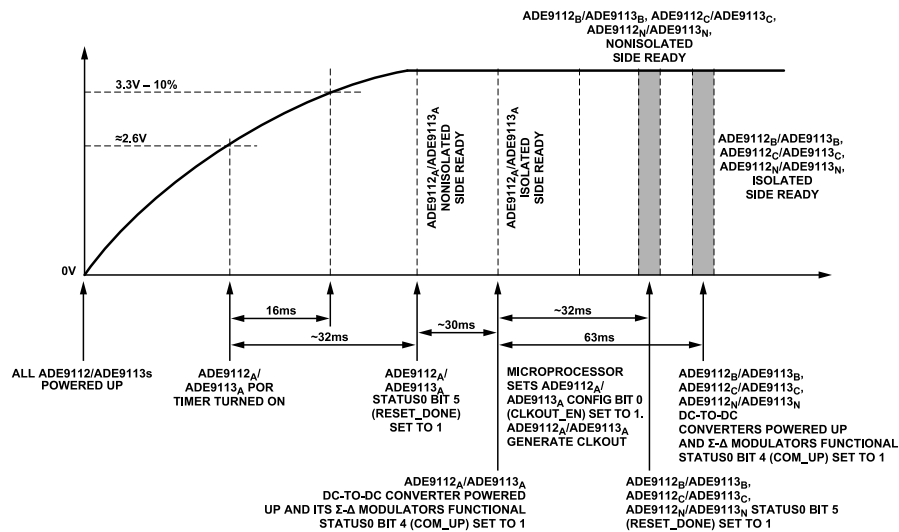

Figure 45. Power-Up Procedure for Systems with Multiple Devices; Only Phase A ADE9112_A/ADE9113_A Is Clocked from a Crystal
For the polyphase energy meters detailed in the Polyphase Energy Meters section, in which, one single crystal is used, the power-up procedure is as follows (see Figure 45):
To ensure that the Phase A ADE9112/ADE9113 (shown as ADE9112_A/ADE9113_A in Figure 45) device starts functioning correctly, the supply must reach 3.3 V – 10% in less than 16 ms from approximately a 2.5 V level. The ADE9112_A/ADE9113_A device is clocked by the 16.384 MHz crystal and then starts functioning. The other ADE9103/ADE9112/ADE9113 devices are not clocked yet.
7. Initialize any registers of all remaining ADE9103/ADE9112/ADE9113 devices. Select one ADE9112/ADE9113 device (Phase C, for example, ADE9112_C/ADE9113_C in Figure 45) and connect the CLKOUT/DREADY pin to an external interrupt input and output pin of the microcontroller. ADE9112_C/ADE9113_C must have Bit 0 (CLKOUT_EN) in the CONFIG0 register left at the default value of 0 to use the DREADY functionality of the CLKOUT/DREADY pin.